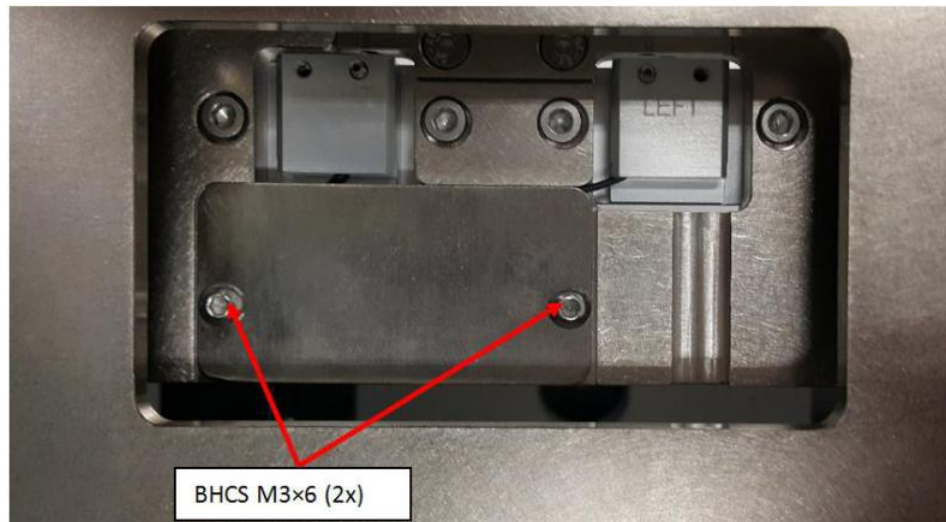

Figure 42 BHCS M3×6 (2x)
7. Close Optical PIP Sensor Cover with BHCS M3×6 (2x) as shown in Figure 42.